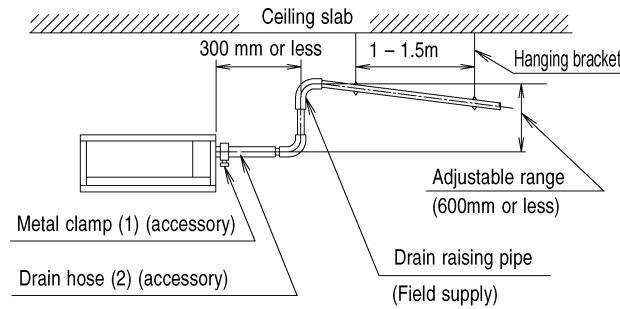

Fig. 13
- Place the drain raising pipe vertically and make sure it is no further than 300mm from the unit. **(Refer to Fig. 13)**